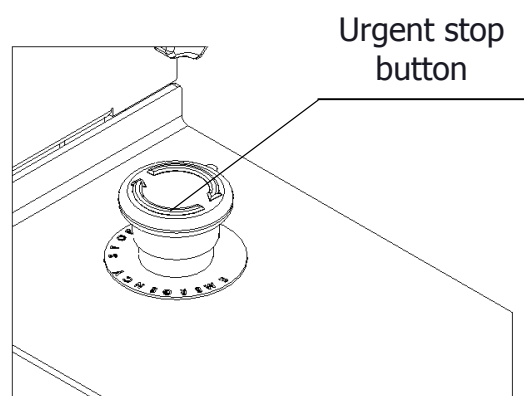

Figure.18
e) Ensure that urgent stop button of the machine is open. (Figure.18)
c) Ensure that urgent stop button of the machine is open. (Figure.18)